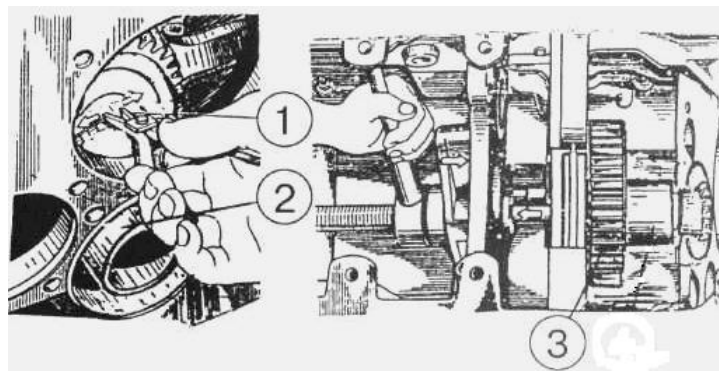

Figure 4.93
f) remove locking ring 1 (Figure 4.93), knock out shaft 2, extract gear 3;